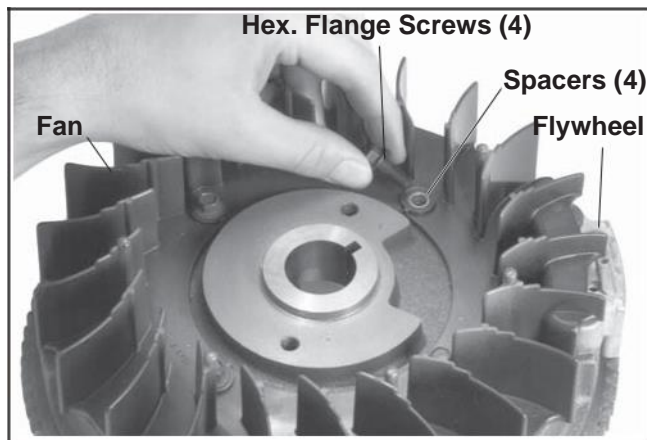

Figure 9-34. Removing Fan from Flywheel.
4. Remove the four hex. flange screws, spacers, and fan from flywheel. See Figure 9-34. Later engines will have shoulder screws and no spacers.